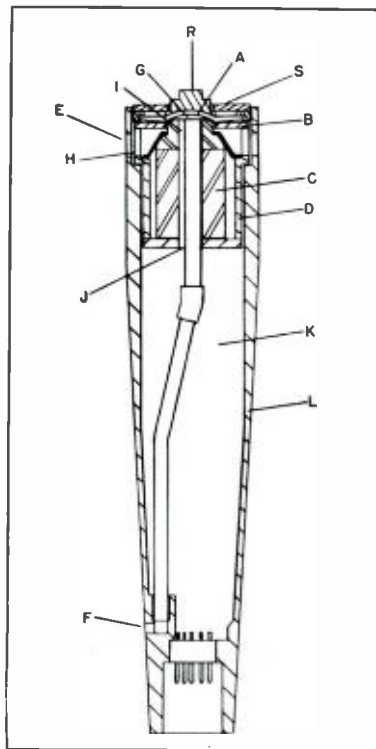
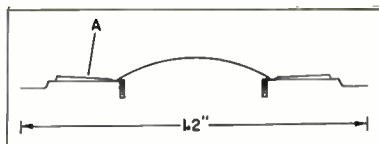

Fig. 9. Cross section of the cardioid microphone.
Fig. 10. Section of the cardioid diaphragm and voice-coil assembly showing the long compliance sections necessary for low resonance.
The curves (A) and (B) of Fig. 9 were run under identical conditions with the exception of the fiberglass stuffing. The curves are untouched (no microphone correction, curve tracer correction, etc.). They are intended to show only differences. The odd shape of the bass end is due mostly to the anechoic room environment.
Figure 9 shows a schematic to illustrate the various sound entrances essential to the performance of such a unit. The cardioid pressure unit consists of the diaphragm and voice coil assembly, A;
pole plate, B; magnet, C; magnetic return, D; high-frequency entrance, E; low frequency entrance, F, which terminates at the sound pressure mixing chamber, G; acoustical resistance, H; an anti-resonant barrier, I; cavity communicating tube, J; main cavity, K and the housing, L. The diaphragm/voice-coil assembly which is the heart of the structure is best described by showing it in a separate drawing, Fig. 10. For this design, the device must be mass controlled, which dictates a low resonance point to encompass as large a part of the acoustical spectrum as possible. If
the resonance, however, is chosen to be too low, the structure will be too sensitive to shock excitation and currents of air. The chosen 120 cps resonance represents a compromise of those two factors. Since the mass of the voice coil and diaphragm assembly controls the sensitivity of a microphone, the reduction of the resonance can best be accomplished by increasing the compliance. This is why the cardioid diaphragm configuration contains a long compliance section, a, in Fig. 10. Otherwise, the remaining parts of the structure are very similar to the omnidirectional design. Because of this, the diameter of the diaphragm is considerably larger and measures 1.2 in. Going back to Fig. 9, the zero-incidence sound actuates the front of the diaphragm. At the same time, however, after some delay due to a longer path, the sound enters the high-frequency entrance, E. It, however, is further delayed by passage through the silk layer, H, and its passage through the voice-coil gap which represents an acoustical inductive component. When it strikes the rear of the diaphragm, it is in a different phase relationship in reference to the front sound pressure. To boost the bass response below 120 cps, another entrance is established at F, which is considerably further away from the rear of the diaphragm than point E. The sound entering F is lead through a tube into the mixing chamber of the diaphragm at